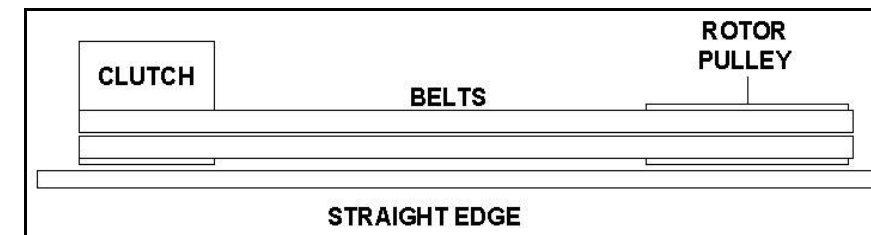

Figure 2
- Check alignment of the clutch (item #47) with the drive pulley (item #22) by placing a straightedge across both faces as shown in figure 2. If adjustment is necessary, correct alignment by moving rotor pulley in or out on the rotor shaft. **Do not make adjustment by moving the clutch on the engine shaft.**